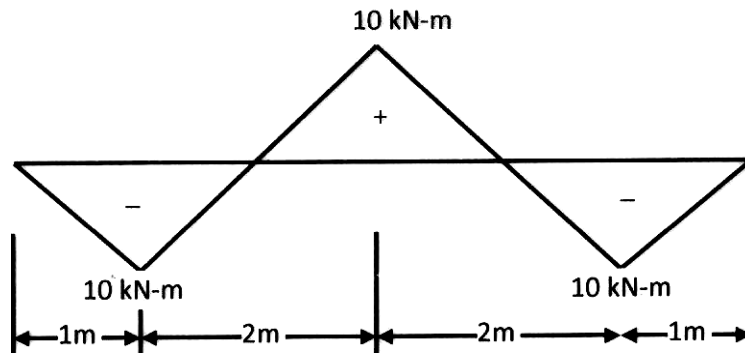

Fig. 3
- (b) Locate the point of contraflexure in the bending moment diagram shown in the Fig. 3. Also draw loading and shear force diagrams for it. [8]